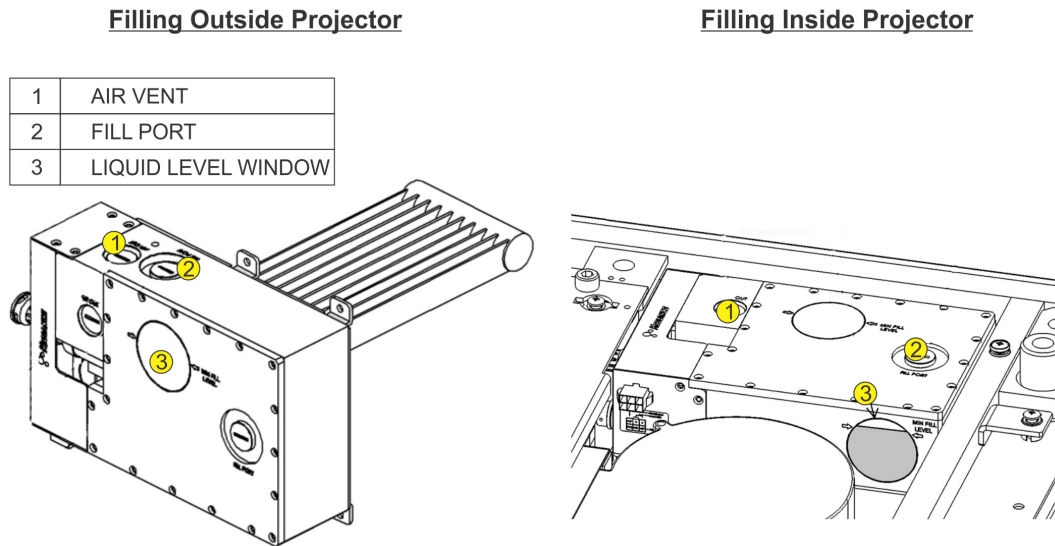

FIGURE 5-11
4. Locate the Liquid Cooling Module and inspect the liquid level window. **NOTE:** *The arrow is next to the window which indicates the “MIN FILL LEVEL”.* Refer to *Figure 5-11*.
1. Using a flat head screwdriver, remove the fill port cap and the air vent cap. See *Figure 5-11*.